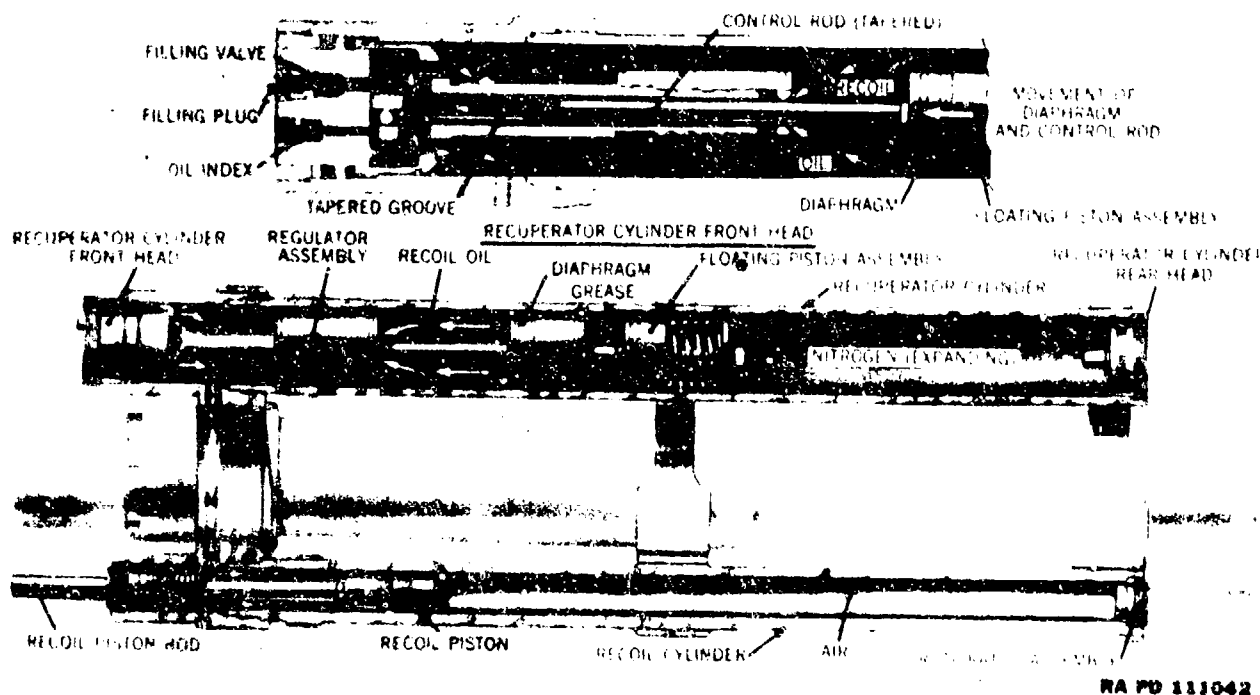

Figure 3-12. Action in counterrecoil.
(1) The *recoil piston and piston rod* are stationary in the recoil cylinder and are attached to the cradle by the piston rod outer locking nut.
(2) The *pneumatic respirator* (fig 3-12), an adjustable buffer is located at the rear head of the recoil cylinder. The respirator controls the escape of air from the rear of the recoil cylinder by means of an adjustable orifice. By admitting air freely during recoil and restricting the escape of air during counterrecoil, the respirator provides the additional buffing action that is sometimes necessary to prevent the howitzer from slamming into battery. It has four settings: 0, 1, 2, and 3. To set the respirator on 0, turn the respirator valve head counterclockwise as far as it will go. To set the respirator at any other setting, turn the respirator valve head clockwise, one click for a setting of 1, two clicks for a setting of 2, and three clicks for a setting of 3.
b. Action in counterrecoil (fig 3-12).
- (1) The energy of the compressed nitrogen gas acts on the floating piston, which forces the oil